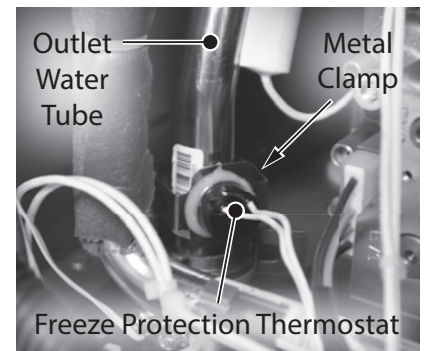

Figure 40 - Remove freeze protection thermostat
- 7 Locate freeze protection thermostat installed to the outlet water tube as shown in Figure 40. The thermostat is secured to tubing by a metal clamp. To remove thermostat from piping, gently pull on metal clamp and the assembly will come free. Dispose of properly.